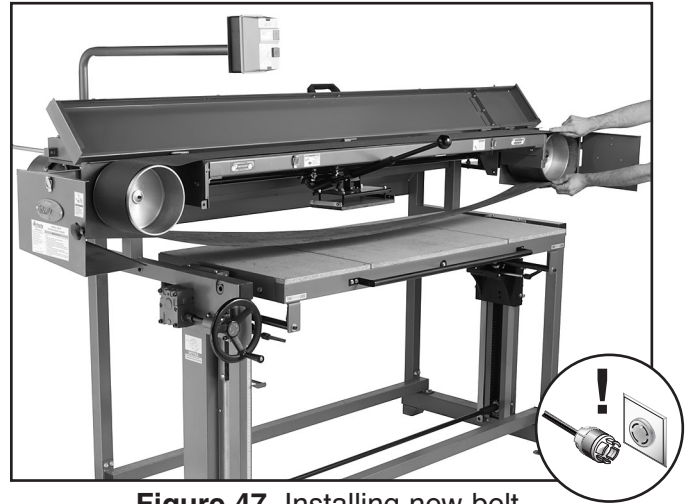

Figure 47. Installing new belt.
6. Place the belt along the top platen, under the platen press, and over the other wheel, as shown in **Figure 47**.